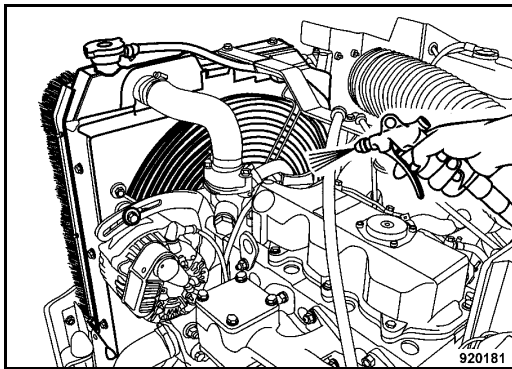

Fig. 147
- Blow the cooling air passages out with compressed air from the air discharge side (Fig. 147).